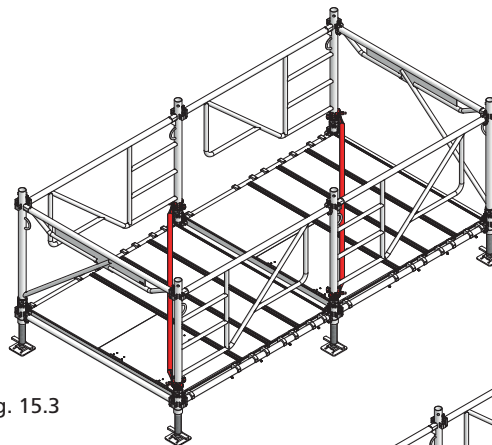

Fig. 15.3
8. Attach the frames 100 MT to the other spindles the way you attached the access frame in Step 7 (Fig. 15.3).
9. Attach a horizontal brace MT between two frames MT 100 to make sure the entire frame construction is rectangular (Fig. 15.3).